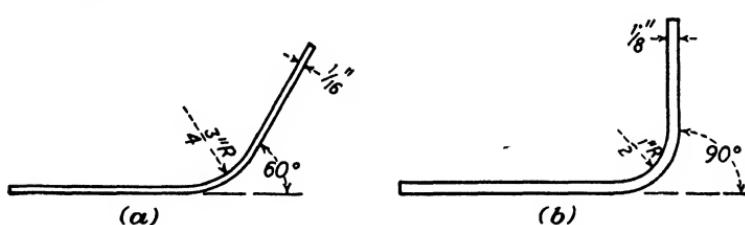

Fig. 242.
- Find the bend allowance for each of the fittings shown in Fig. 242.